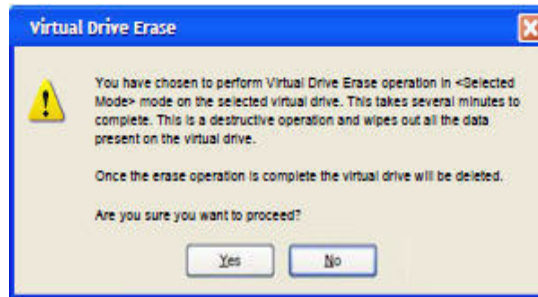
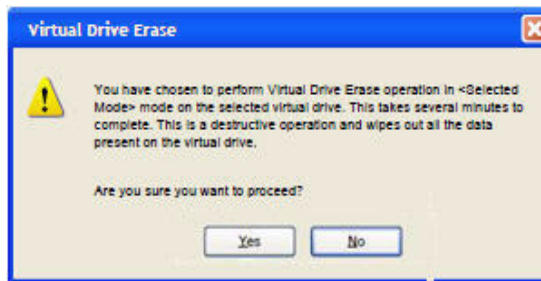

Figure 197: Warning Message for Virtual Drive Erase
Figure 198: Warning Message for Virtual Drive Erase Without Virtual Drive Delete
- **Simple – (Alt + S)** – After you select this option and click **OK**, and if **Delete Virtual Drive after Erase** is selected, Figure 197 is displayed; otherwise, Figure 198 is displayed.
- **Normal – (Alt + N)** – After you select this option and click **OK**, and if **Delete Virtual Drive after Erase** is selected, Figure 197 is displayed; otherwise, Figure 198 is displayed.
- **Thorough – (Alt + T)** – After you select this option and click **OK** and if **Delete Virtual Drive after Erase** is selected, Figure 197 is displayed; otherwise, Figure 198 is displayed.
- **Delete Virtual Drive after Erase – (Alt + D)** – When you select this option, the virtual drive is erased and Figure 197 is displayed; otherwise, Figure 198 is displayed.
- **OK – (Alt + O)** – Click **OK** and if **Delete Virtual Drive after Erase** is checked, Figure 197 is displayed; otherwise, Figure 198 is displayed.